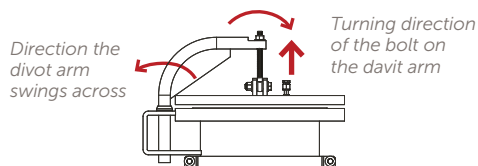

Figure 13.
2. Turn the bolt on the davit arm clockwise to lift the housing top flange, Figure 13.